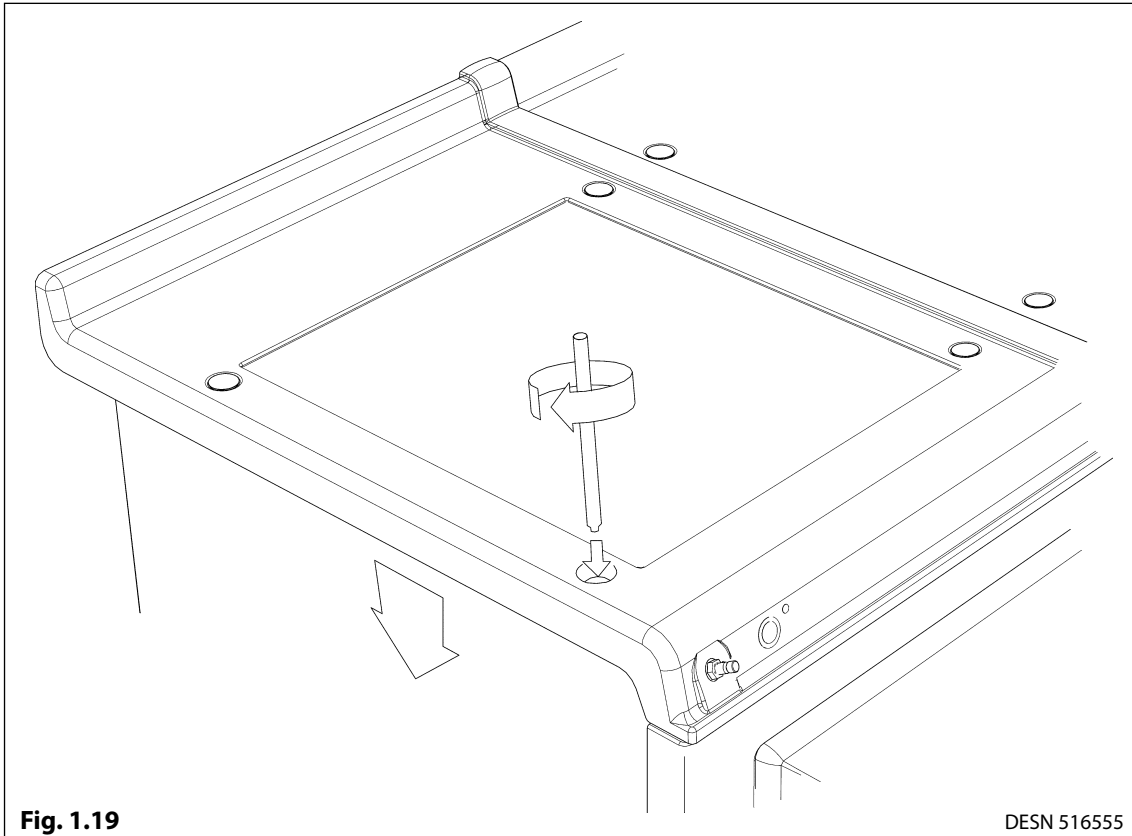

Fig. 1.19
8. Using the stay rod nut adjusting tool, carefully lower the top plate adjusting nuts until the top plate sits at the required height, making sure that the top sits level and matches the height of the AGA DC3. (See **Fig. 1.19**).